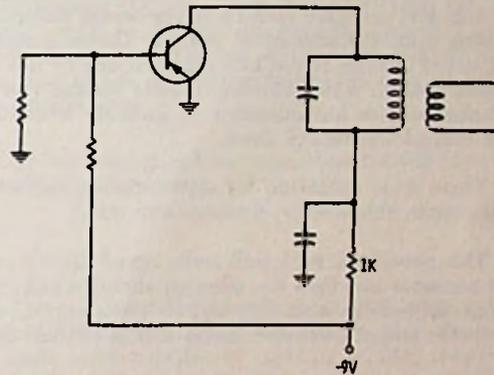

Fig. A-9.
23. B. Thermal runaway is not possible unless the transistor can draw excessive current because of circuit values. For example, a resistor in the emitter or collector circuit can prevent thermal runaway by limiting the total current possible. An emitter resistor not only limits the amount of current available to flow through the transistor, but also reduces the transistor bias as the transistor current increases. Fig. A-9 shows a transistor circuit that will prevent thermal runaway, even though the transistor bias is not affected, so long as the transistor will not be damaged by the passage of 9 mA of current. The 1K resistor would limit the circuit current to 9 mA, even if the transistor were a short circuit.